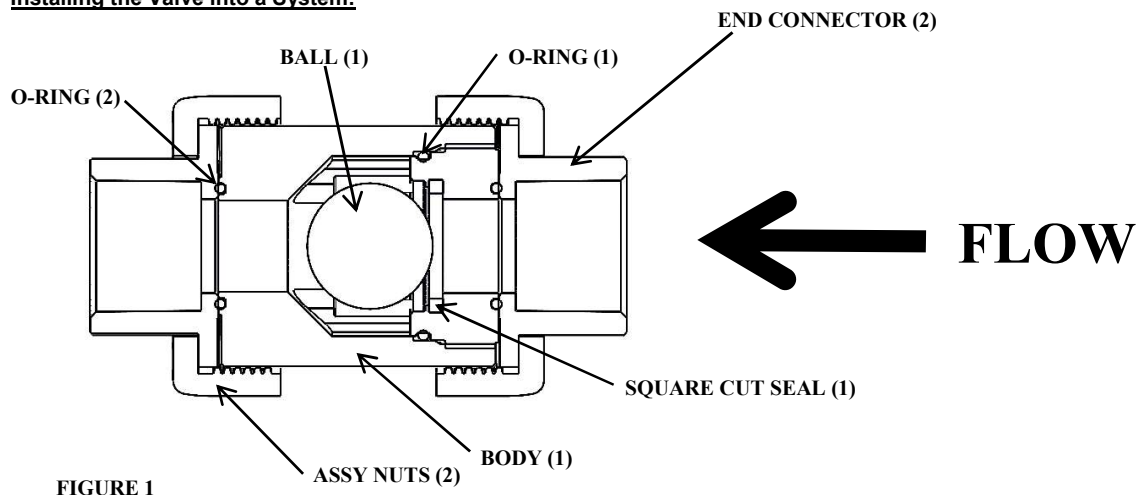

FIGURE 1
1.2.4.4.2. Flange bolts should be tight enough to compress the gasket and make a good seal, without distorting or putting excessive stress on the flanges. Suitable washers should be used between the bolt head and flange and the nut and flange. Bolts should be tightened in alternating sequence (Figure 1). See Table 1 for recommended torque.
Refer to Figure 1, page 3 for part descriptions and locations.
3.1.2 Remove the assembly nut and end connector from the end opposite of the flow arrow (see Figure 1) on the body, or the complete valve body from the piping system.